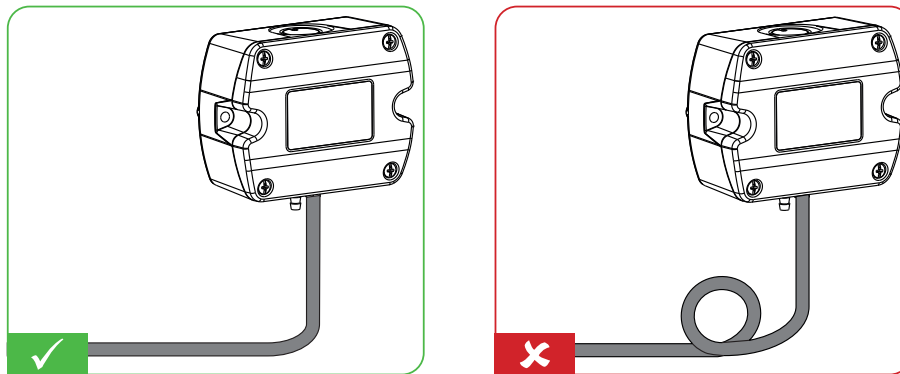

Fig. 13 Pressure hose route
- Connect the pressure hose (included in the scope of supply) first to the EE600 and then to the nipples at the duct. Route the pressure hose for avoiding sharp bends which might lead to the hose obstruction („Fig. 13 Pressure hose route“).